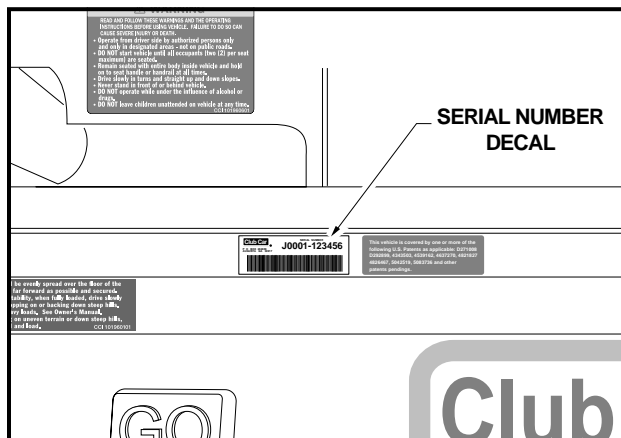

Figure 2 Serial Number Location
The serial number of your transportation vehicle is printed on a bar code decal mounted on the frame directly above the accelerator pedal (Example: J0001-123456) (**Figure 2, Page 11**). There is also a second serial number decal mounted on the front body frame behind the center dash panel. The center dash panel must be removed to access this serial number. **See following NOTE.**
- ALWAYS HAVE THE VEHICLE SERIAL NUMBER AT HAND WHEN ORDERING PARTS OR MAKING INQUIRIES (**FIGURE 2, PAGE 11**).